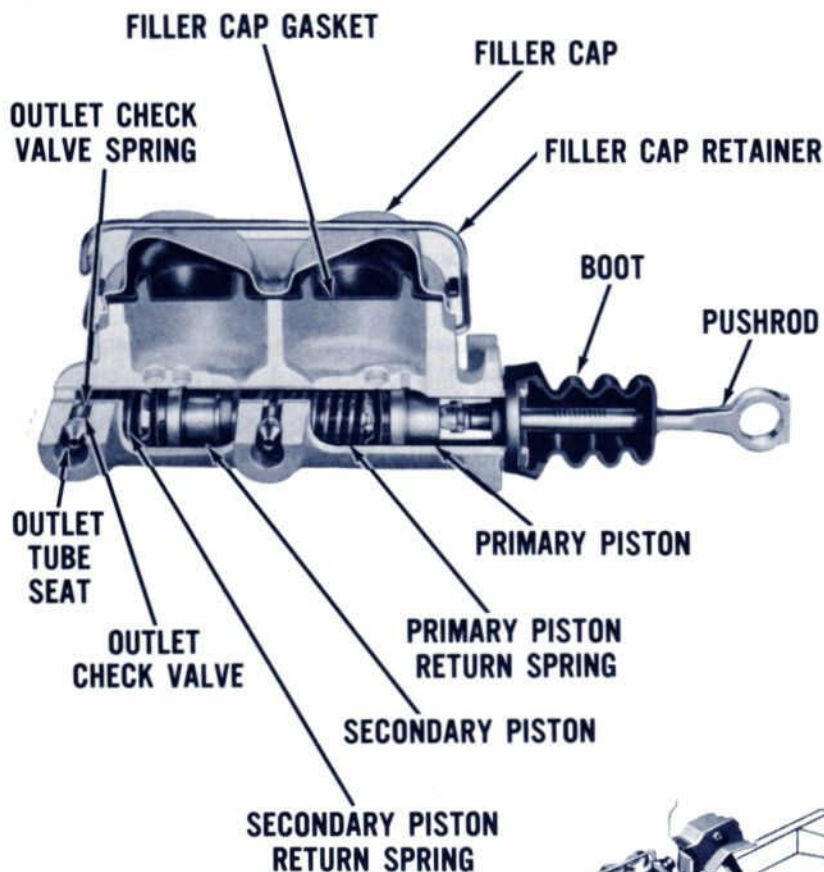
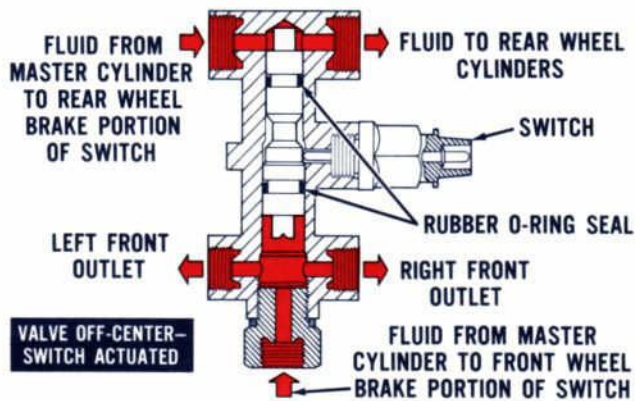
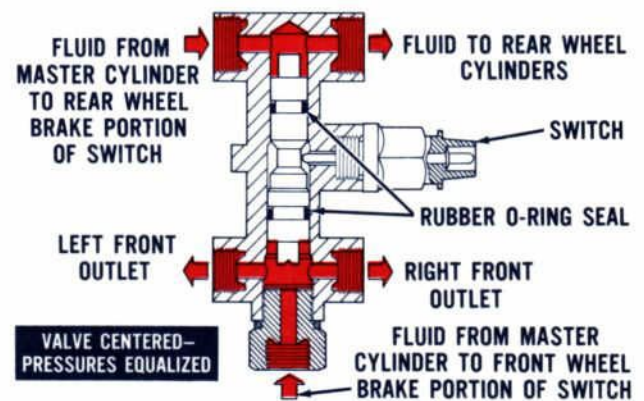

Fig. 1—Dual-Master Cylinder for Standard Brake Drums
Fig. 3—Valve Piston Moved To Low Pressure Area with Plunger Closing Switch Contacts to Light Warning Light
Fig. 4—Valve Piston is Centralized When Primary and Secondary System Pressures Are Equalized
All 1967 Ford-built cars and light-duty trucks are standard-equipped with a dual hydraulic brake system. The system consists of a dual-master cylinder (Fig. 1), pressure differential valve assembly (Fig. 3) and a switch on the valve that triggers a warning light on the instrument panel.
The new dual-master cylinder brake system is similar to previous design single brake master cylinder system, except that the dual system has two master cylinders combined in a single, dual-cylinder body casting. Each master cylinder has its own separate piston and fluid reservoir. The primary chamber on the right (Fig. 1) actuates the front brake system. The secondary chamber on the left actuates the rear
The increased pedal travel and effort needed to compensate for the loss in the failed section triggers a warning light and signals the driver that a partial brake system failure has occurred. In the event of failure of either the front or rear brake sub-systems, a pressure differential valve senses the pressure loss of the failed brake system and forces the valve toward the low pressure area (Fig 3). This causes the plunger in the mechanically operated electrical switch to locate and move up onto the valve ramp or shoulder. The switch contacts close and light the warning light on the instrument panel. Normally, when both brake sub-systems are operating satisfactorily, the spring-loaded plunger of the switch remains centered (Fig. 4) when the hydraulic pressure is equalized.
1. Bleed the master cylinder at the outlet port of the sub-system being serviced. (Fig. 1).